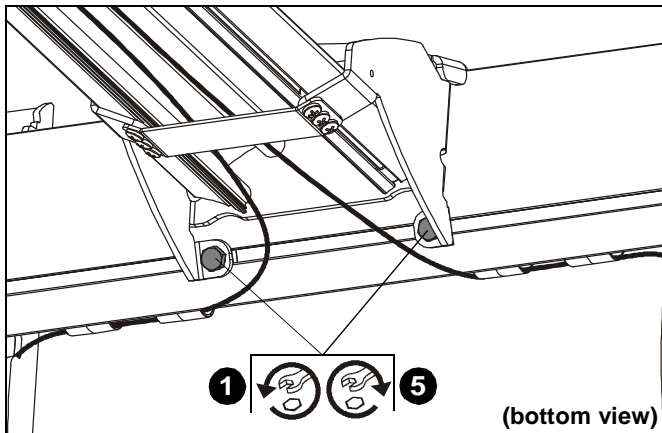

Figure 37
1. Loosen two 1/4-20 x 5/8" hex head cap screws on underside of mounting bracket. (See Figure 37)
5. Tighten two 1/4-20 x 5/8" screws (E) on underside of mounting bracket. (See Figure 37)